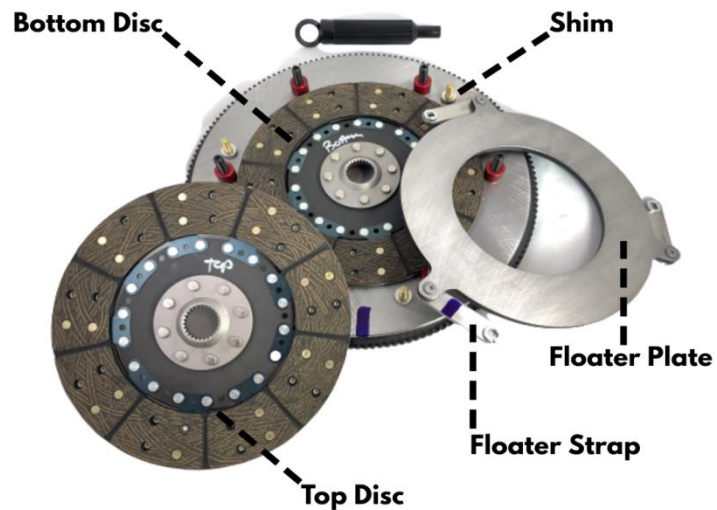

Figure 3
5) Remove the bottom disc. Also note “Flywheel Side” on the disc center. See Figure 3